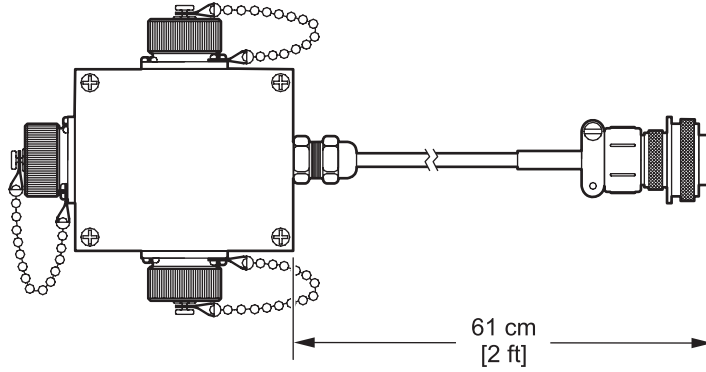

Figure 22 Splitter
- Optional splitter (Figure 22) to provide additional connections. Two or more splitters may be connected in series.